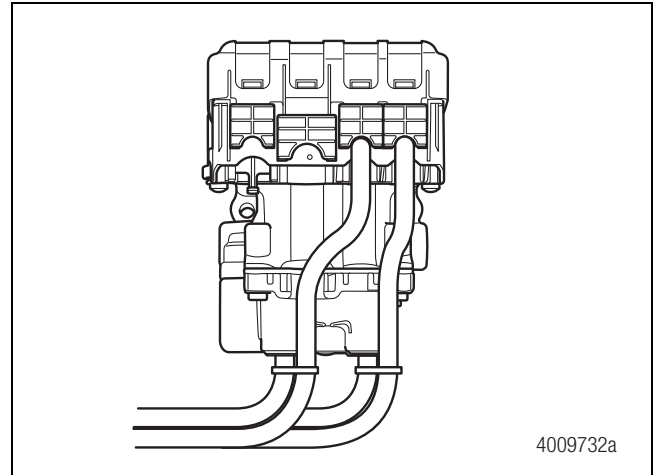

Figure 12
7. Create a strain relief to protect the terminals. Without this strain relief, normal trailer jounce and vibration will cause the terminals to spread and loosen. Use a tie wrap or clip to secure the cable to the air hose as close to the fitting as possible. Slots for tie straps may be found on the valve body. Figure 12.